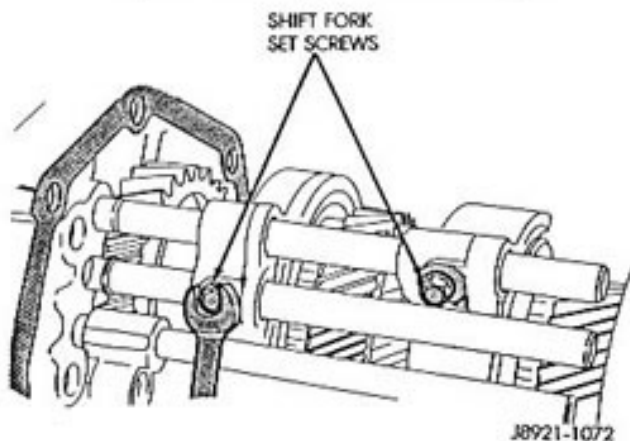

Fig. 43 Removing Shift Fork Set Screws
(3) Remove the shift fork set screws (Fig. 43).